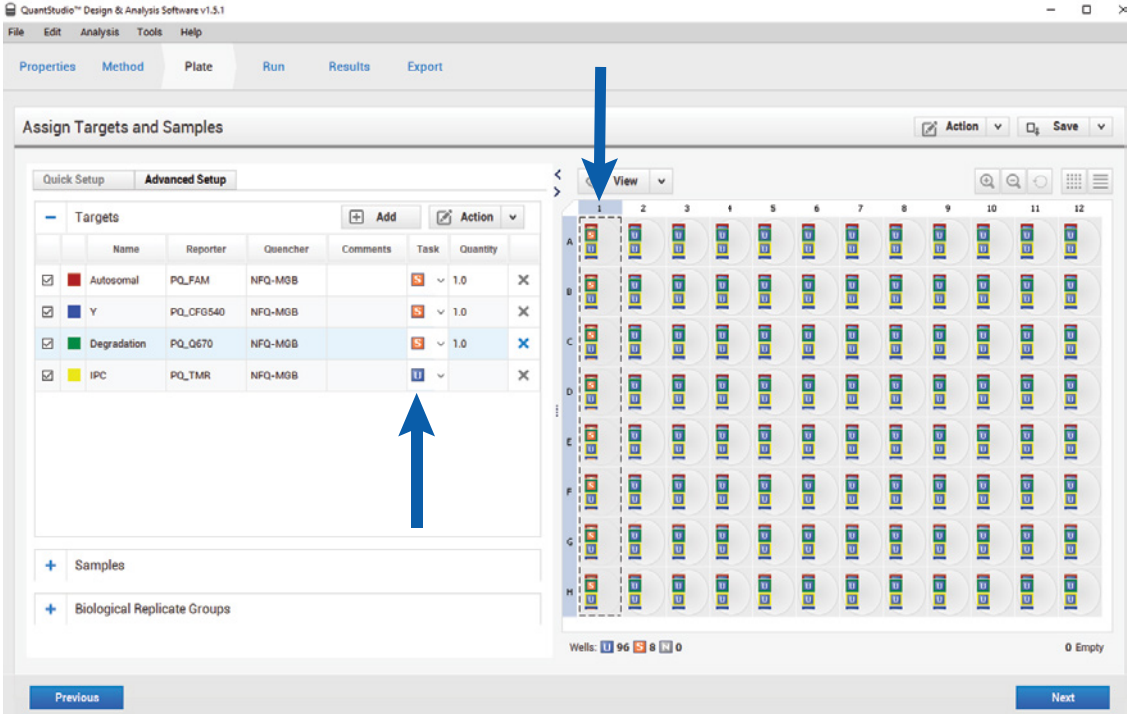

Figure 39. Designating the Task for each target in wells containing DNA standards.
- Highlight the wells containing DNA standards and select **S** as the Task for the autosomal, Y and degradation targets (Figure 39).